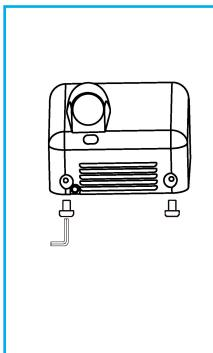

Figure 4
- Replace the panel and secure it with the hex key to complete the installation (see Figure 4).